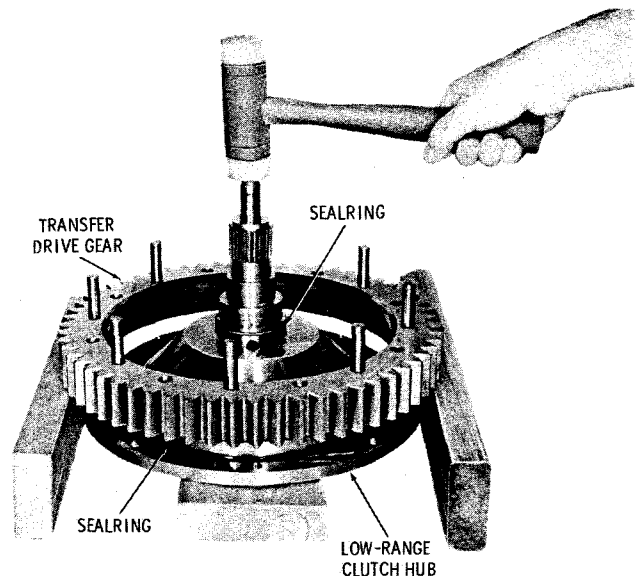

Fig. 5-24. Removing low-range clutch hub from transfer drive gear
(4) Support the transfer drive gear on wood blocks and position a wood block below the low-range clutch hub (fig. 5-24). Using a soft mallet, tap the clutch hub from the transfer drive gear. Remove one large and one small sealring from the clutch hub. Refer to paragraph 6-12 for transfer drive gear rebuild, and paragraph 6-13 for clutch hub rebuild.